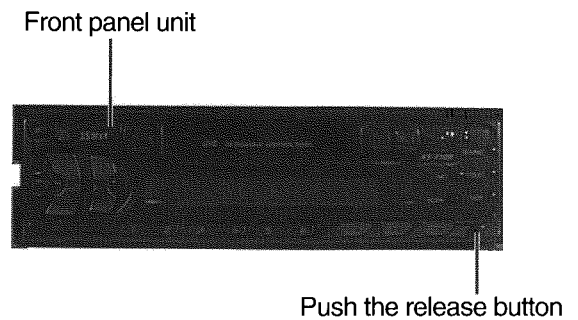

Fig. 1
■ Detaching the Front Panel Unit (See Fig.1)